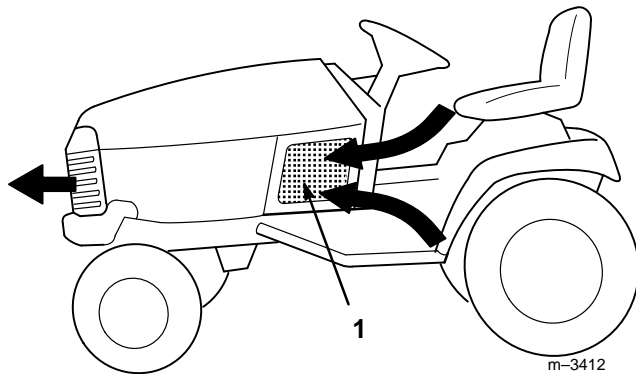

Figure 6
2. Check for debris on the (3) air intake screens (Fig. 6). Wipe away debris before each use and/or during use, if required.